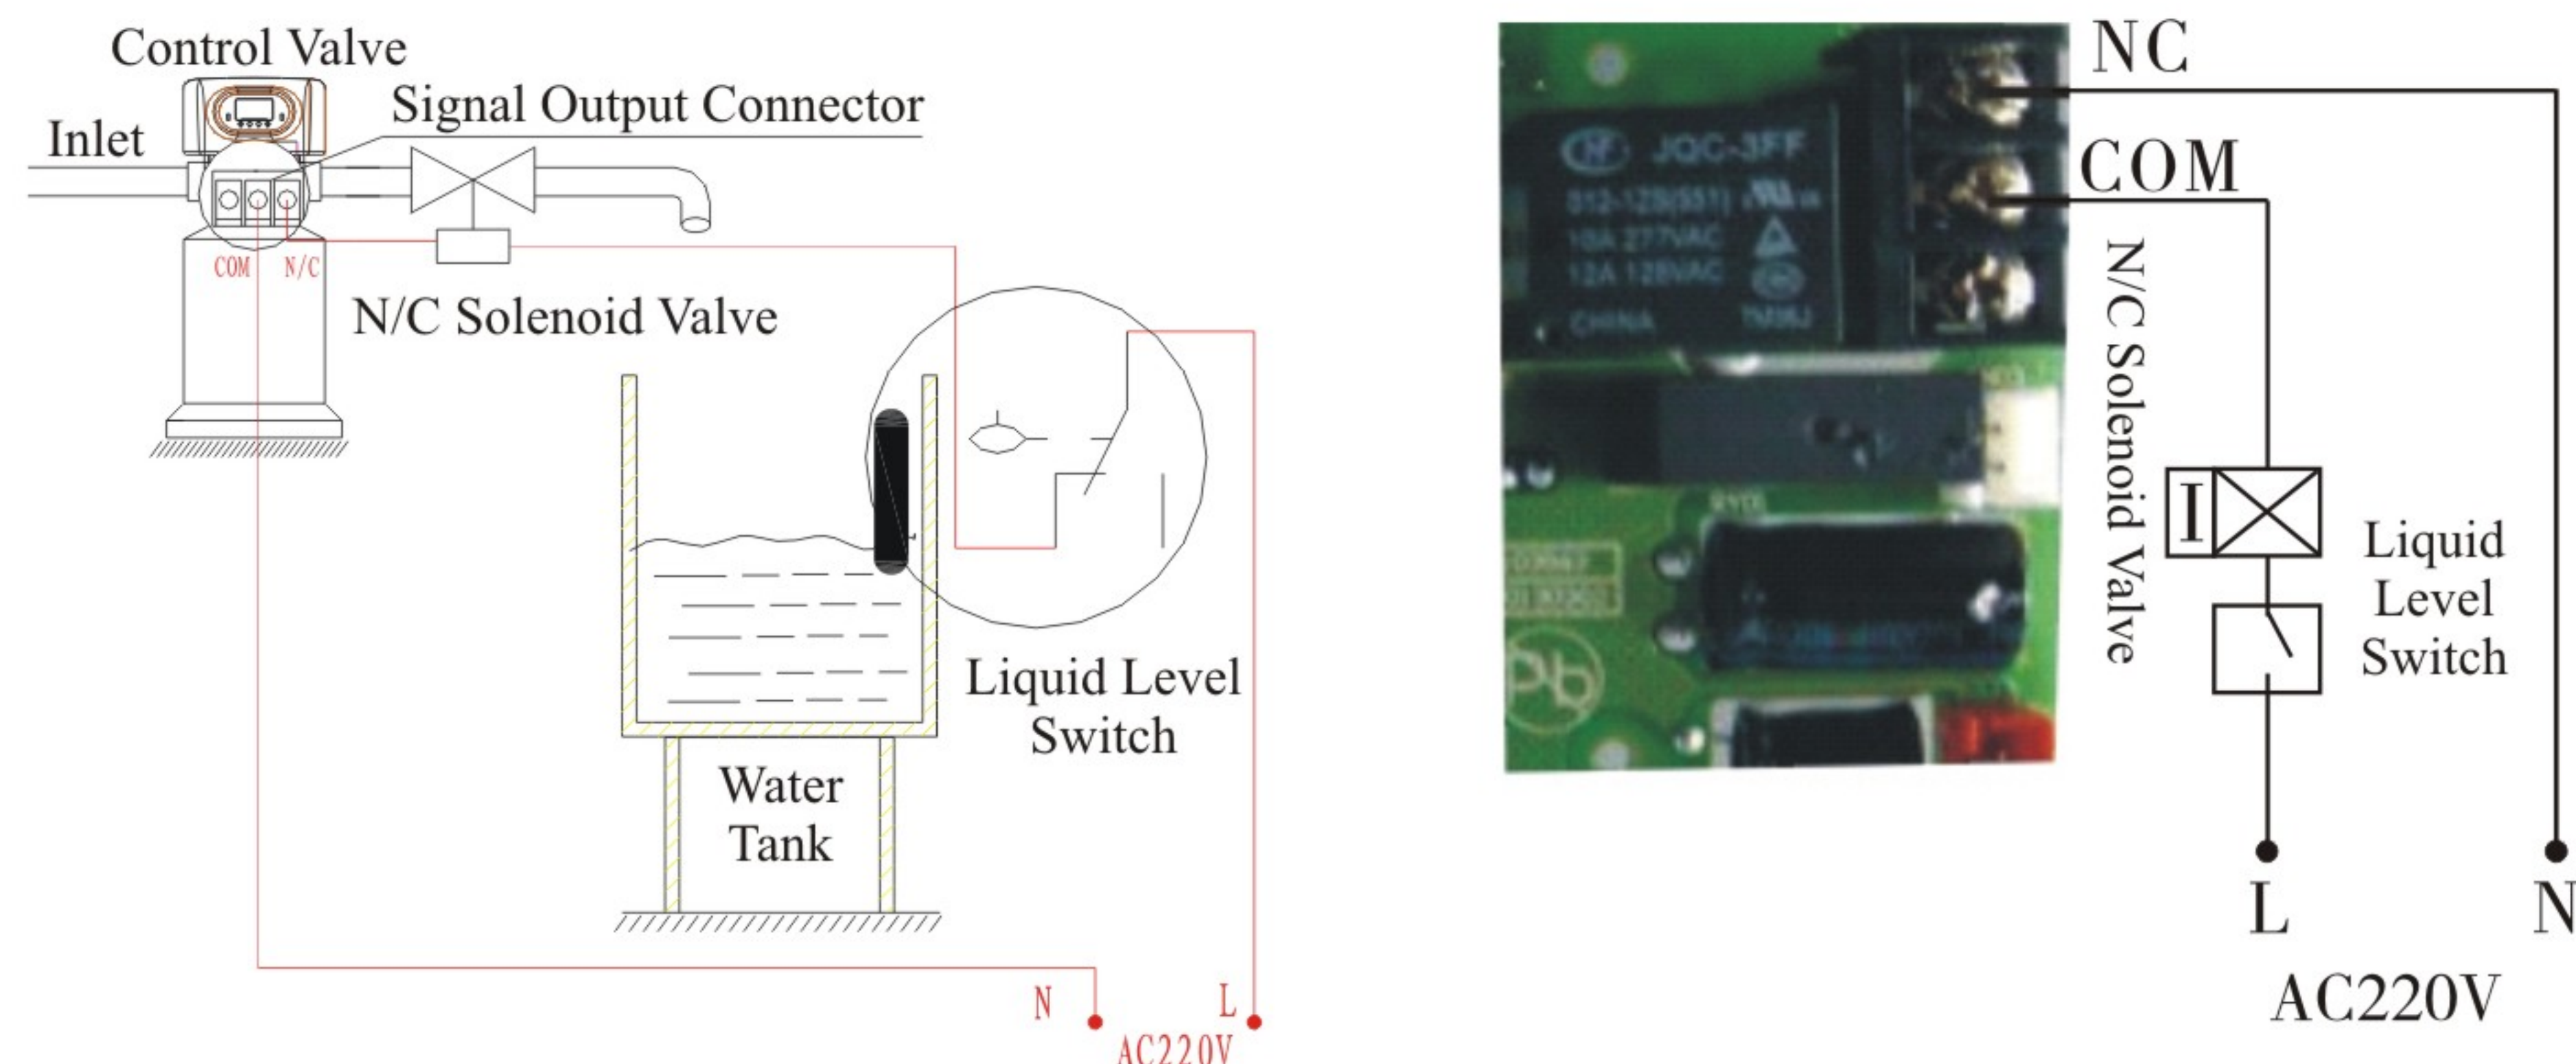

Figure 3-1 Wiring of Solenoid Valve on Outlet
① Solenoid Valve on Outlet Controls Water Level in Brine Tank.
**Instruction:** If system requires no hard water to flow from outlet in regeneration cycle (Mainly for no hard water flows out when valve is switching or valve in backwash or brine drawing status), a solenoid valve could be installed on outlet, the wiring refers to Figure 3-1.